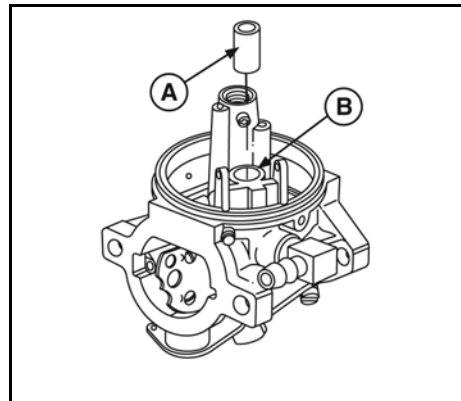

Figure 51
6. Using Knockout Pin #19135, press new fuel inlet seat (A, Figure 51) until flush with fuel inlet boss (B).